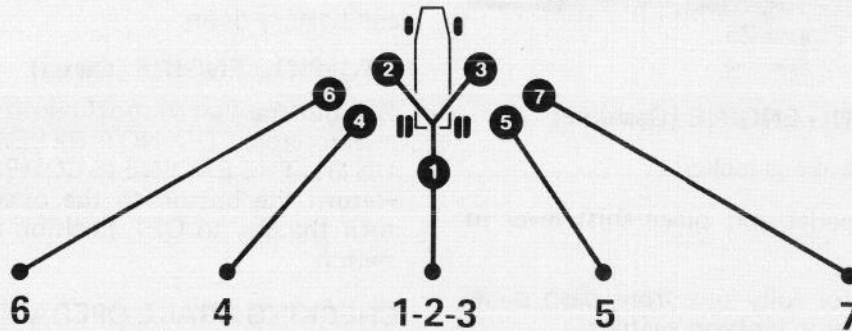

Figure 26
3. Push the hydraulic control levers toward the valve section to lower the mowers with Parkmaster in motion to eliminate possibility of spinning tractor drive wheels on the turf causing turf damage. Use the diagram on top of hydraulic control panel as a guide to lowering mowers (Fig. 26).